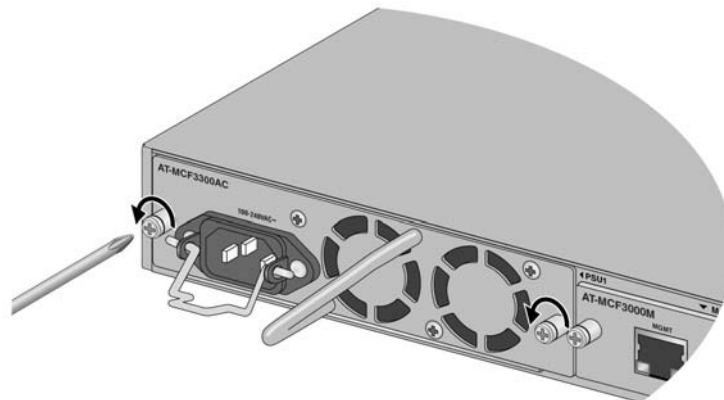

Figure 69. Loosening the Two Captive Screws on the MCF3300AC Power Supply
4. Using a cross-head screwdriver, loosen the two captive screws on the power supply. Refer to Figure 69.